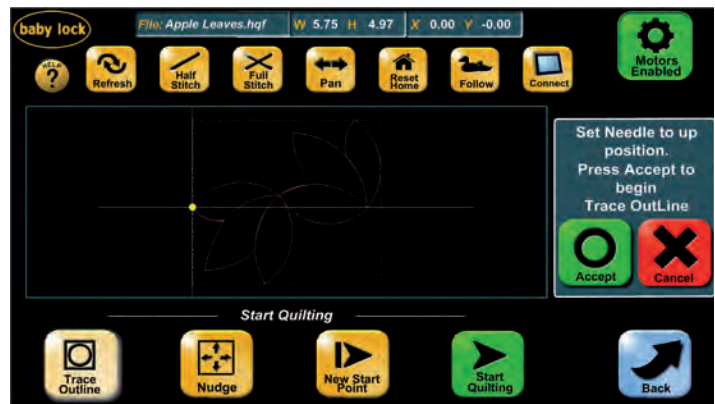

Figure 36
2. After performing a quick manual check, the user can press the “Trace Outline” button to allow the Pro-Stitcher to “outline” the perimeter of the pattern block. “Trace Outline” starts by moving the machine to the lower left-hand corner of the pattern block. A message will pop up to have the user verify that the needle is not down in the fabric before it moves (Figure 36). The machine will then move to the lower right-hand corner, followed by the upper right-hand corner, etc., until it has moved around the perimeter of the pattern block and back to the start point. If required, there is a “Stop Trace” button that the user can press to stop the trace.